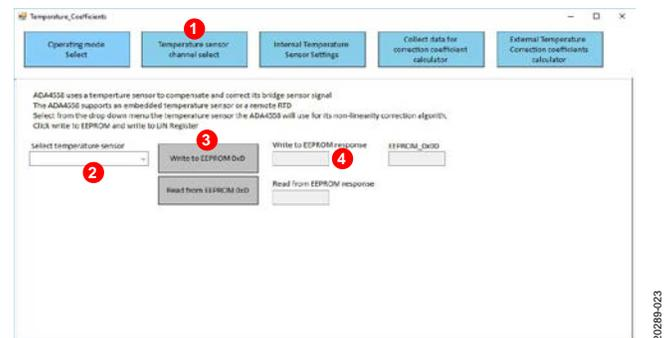

Figure 23. Selecting the Temperature Sensor Channel
2. Click **Temperature sensor channel select** to open the select temperature window (Label 1 in Figure 23).
3. Click **Select temperature sensor** (Label 2 in Figure 23) and choose either the internal or external temperature sensor.
4. Click **Write to EEPROM 0xD** (Label 3 in Figure 23) and verify that the **Write to EEPROM response** (Label 4 in Figure 23) returns **Positive**.